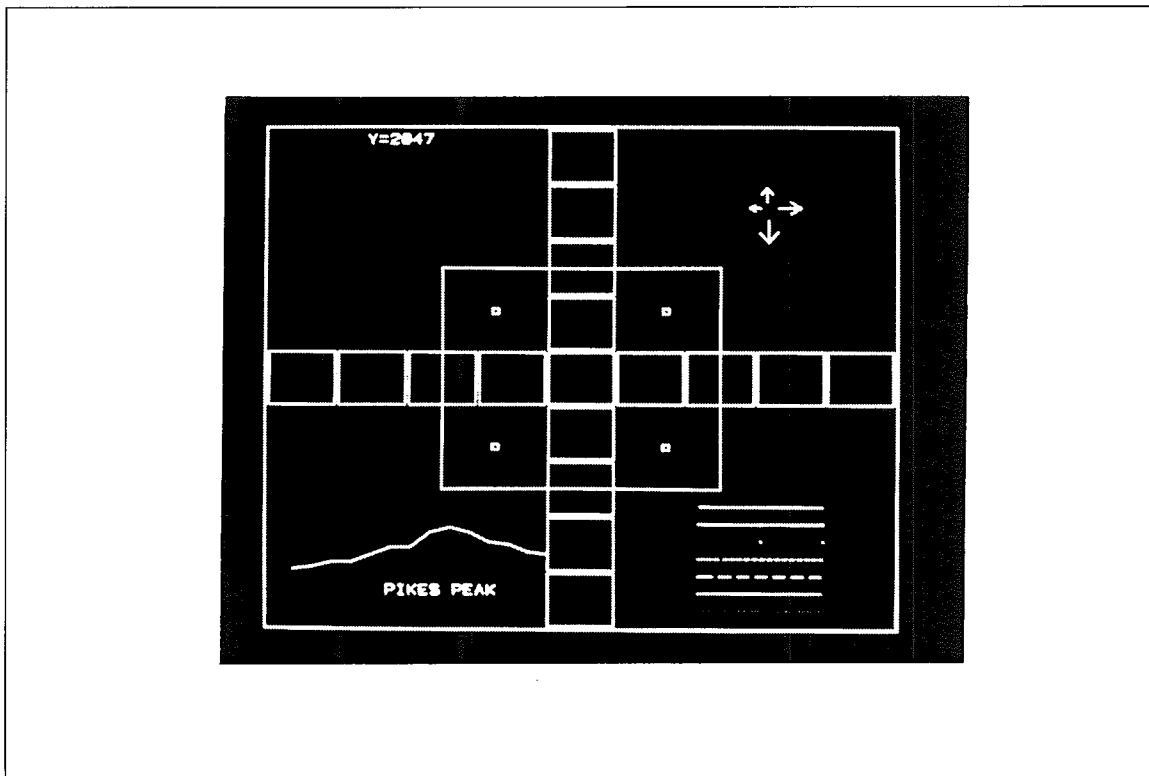

Figure D-1 Display of Verification Pattern
The HP 1345A display is a stand alone digital display. Use the HP 1345A service manual included with the instrument to service the display. To verify the display is failing, set jumper A17 W1 to the test (T) position. The pattern displayed should be the same as shown in figure D-1. To remove the display from the instrument perform steps 1 through 8: